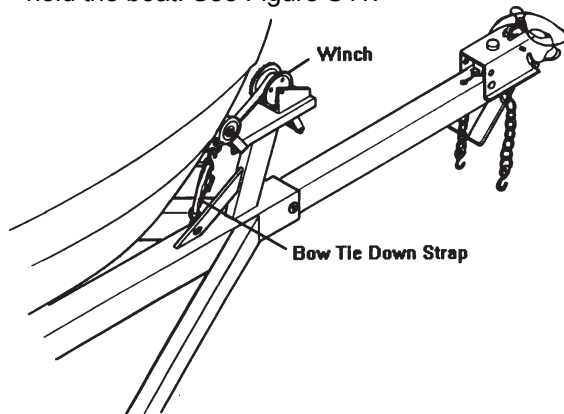

Figure S11: Bow Tie Down Strap
1. **Bow Tie-downs:** A bow stop to hold the front of your boat in place is located on the winch stand. It should be positioned so that the winch line pulls straight and is parallel to the trailer frame. A separate tie-down should then be attached to hold the boat. See Figure S11.